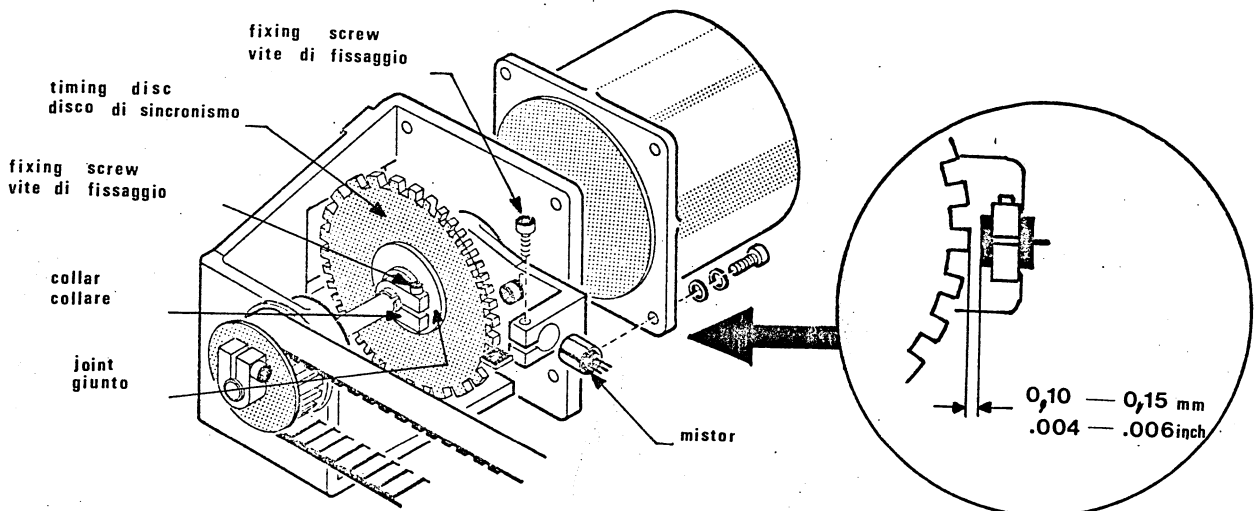

Fig. 8-2 MINA Mechanism Motor/Mistor Support Assembly
- . Interpose the 0,10 mm (.004 inch.) blade and tighten the screw previously loosened pressing the mistor against the blade. Refer to fig. 8.2